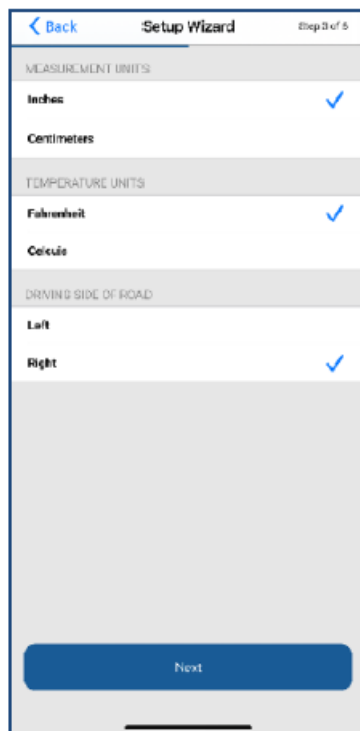

figure 6
Step 3) Make your selections for Measurement Units, Temperature Units and the Driving Side Of Road for your country (figure 6). Defaults for these options are based on the country you defined in the registration process so for most users these will already be set to the selections you will use.